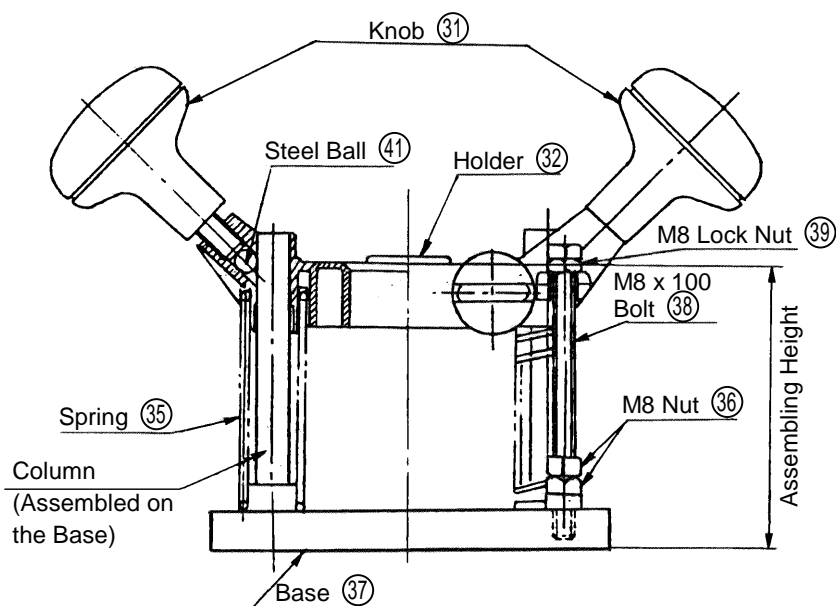

Fig. 8
Place the two Springs (35) onto the columns of the Base (37), and mount the Holder (32) on the columns so that it is properly aligned with the Base (37) as illustrated in Fig. 8. Then, assemble the M8 Lock Nut (39) and M8 Nuts (36) onto the M8 x 100 Bolt (38), position the M8 x 100 Bolt (38) as indicated in Fig. 8, and screw it into the Base (37) until the appropriate dimension from the bottom of the Base (37) to the upper surface of the Holder (32) is attained, as illustrated in Fig. 8. Finally, insert the D7.94 Steel Ball (41) into the threaded hole of the Holder (32) as indicated in Fig. 8, and mount the Knobs (31).